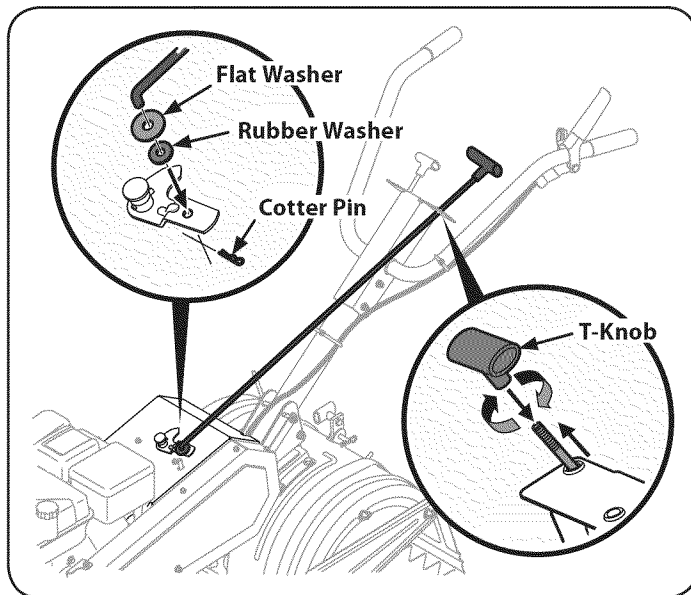

Figure 4
- Remove the hairpin clip, rubber washer, flat washer and T-knob from the control rod and put the rubber washer in place. See Figure 4.
- Slide the shift rod up through the upper handle assembly, insert the lower end of the shift rod into the indicator bracket and secure with the previously removed hardware. See Figure 4.